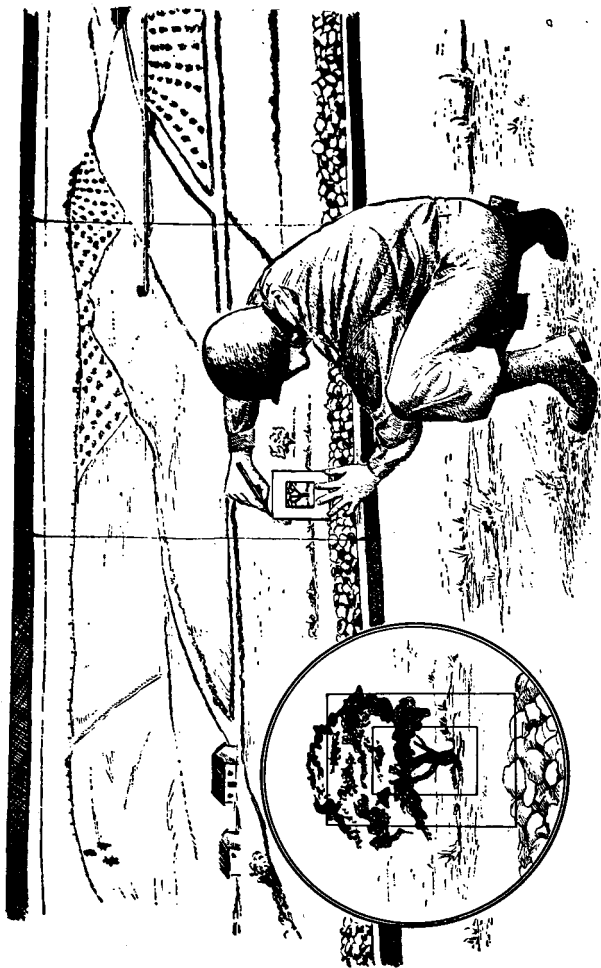

Figure 115. Lining in a scoring area (point target) with the scoring template.
- (1) A suitable template for scoring point targets can be constructed from celluloid, cardboard, or similar material. The inner rectangle of the template should be $2\frac{1}{2}$ inches high by 2 inches wide, while the outer rectangle should be 5 inches high by 4 inches wide. The template is shown in the insert on figure 115. (It has been found that in firing at a point target at a range of 1,000 inches, 75 percent of the rounds fired will normally hit this target in an area that can be covered by a 4-inch x 5-inch rectangle. At the same time, it was found that 50 percent of the total rounds will hit in an area that can be covered by a 2-inch x $2\frac{1}{2}$ -inch rectangle.) The inner rectangular area is known as the
- (2) The template is placed on the panel with the center of the target exactly centered within the 50 percent zone, and the scoring space is then lightly outlined in pencil. Do not make the marks plain enough to be seen from the firing point. Marking is done before the problems are fired to avoid any tendency to place the template on the shot group so as to receive the maximum score (fig. 115).
- (3) All problems are fired on the basis of 50 rounds per problem. Possible score for any problem is 100. One point target may be designated for the AR team (25 rounds) and a separate point target for the rifleman (25 rounds).